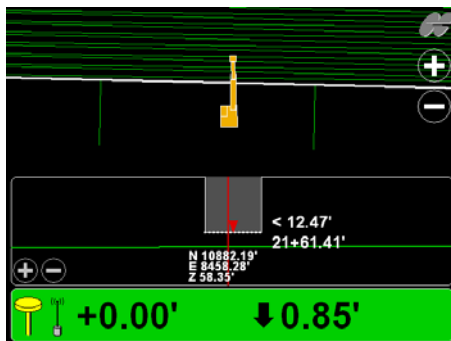

Figure 5-23. Station Lines in Main Screen
- Show regular station lines – displays graphical cross lines relative to the horizontal alignments on the Main Screen (Figure 5-23). Press the **Station interval entry box** to specify the longitudinal interval between lines.